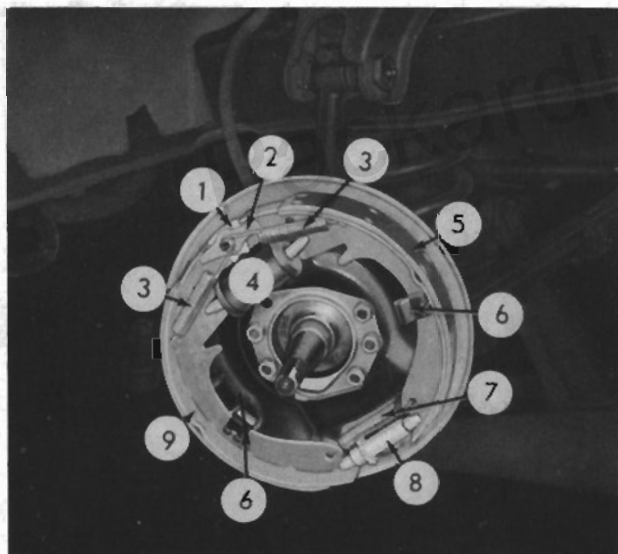
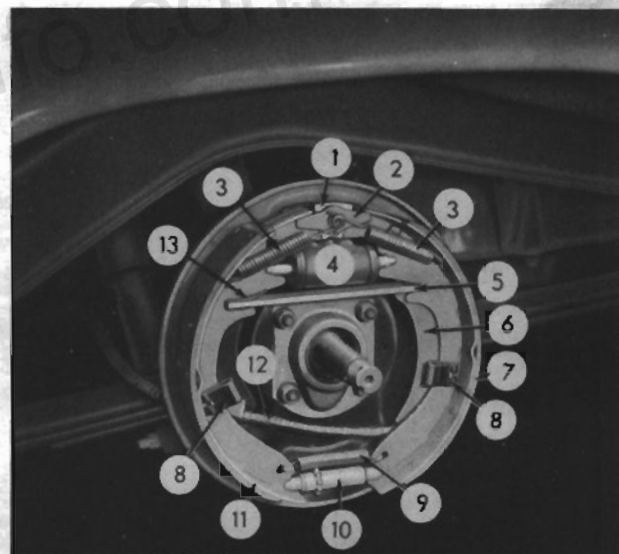
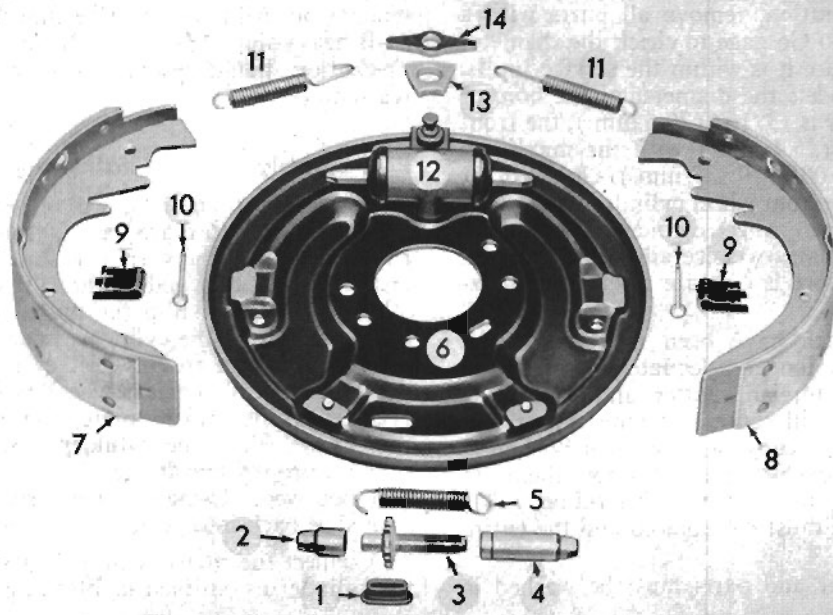

FIG. 13
FIG. 14
FIG. 15
Figures 13 and 14 illustrate the front and rear brake assemblies respectively. Although brake assemblies vary in size as to front and rear, they are basically the same. On all models except the Champion and Flighthawk the rear brake parking brake lever (6, Fig. 14) is mounted on the inner side of the rear shoe, whereas on the Champion and Flighthawk rear brake the parking brake lever is mounted on the outer side of the shoe.
The anchor plate (2) aids in keeping the shoes properly aligned at the self-centering block (1). The adjusting screw (starwheel) assembly consists of an adjusting screw (3, Figs. 15 and 16), nut (4), and guide (2). The adjusting screw spring, while holding the shoes against the screw assembly, also bears against the notches of the screw with enough tension to act as a lock for the screw.
Place a wheel cylinder clamp across the cylinder boots. Using brake spring pliers, remove the adjusting screw spring (7, Fig. 13) and slip the adjusting screw assembly off the shoes. Hold the guide pin (10, Fig. 15) securely against the backing plate, compress the guide pin clip, and slip the clip off the pin. Remove the clip from the shoe which has its return spring mounted on top at the anchor pin. Pull the bottom end of the shoe outward, pivoting the shoe at the block, and stretch the spring enough to disengage the wheel cylinder push rod from the shoe. Then, move the shoe away from the backing plate to allow the shoe to slip off the block to take the tension off the spring. Remove the spring and shoe. Remove the other shoe in the same manner.
Install the wheel cylinder clamp. Pull the parking brake lever (6, Fig. 14) toward the axle shaft and unhook the cable (12). Spread the shoes. Disengage the parking brake link (5) from the shoes and remove the link and antirattle spring (13). Then remove the shoes in the same manner as outlined for the front wheel shoes.